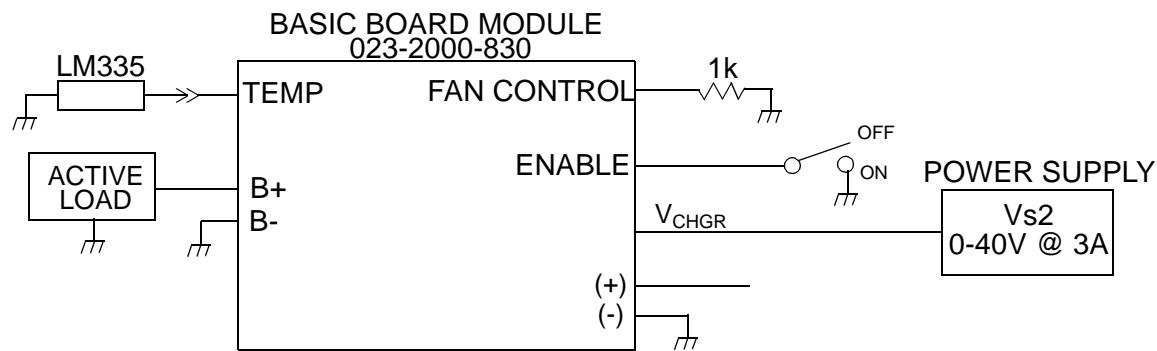

Figure 7-15 BATTERY CHARGER TEST SETUP
1. Connect Battery Backup Module as shown in Figure 7-15.